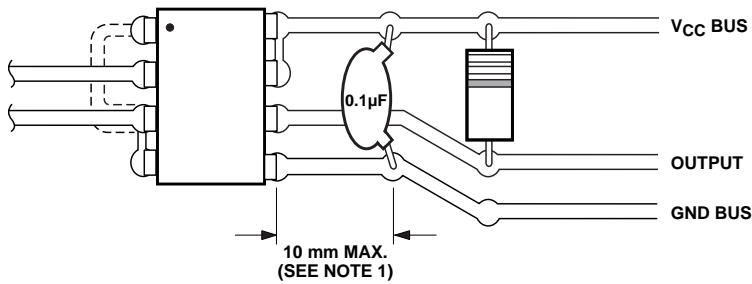

Figure 15. Recommended printed circuit board layout.
1. Bypassing of the power supply line is required with a 0.1  $\mu\text{F}$  ceramic disc capacitor adjacent to each optocoupler, as illustrated in Figure 15. Total lead length between both ends of the capacitor and the isolator pins should not exceed 10 mm.
assumes that good board layout procedures were followed to reduce the effective input/output capacitance as shown in Figure 15.